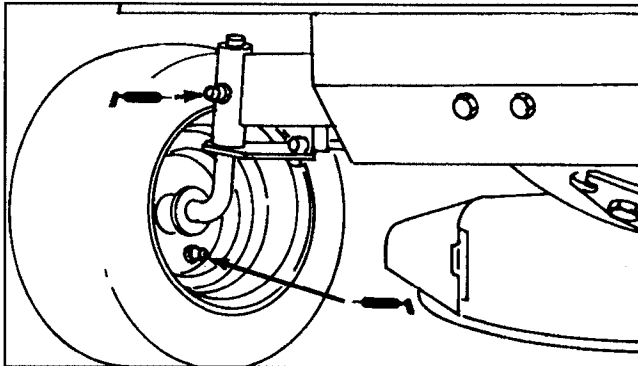

Figure 13
1. Wipe (4) grease fittings on spindles and wheels (Fig. 13) with a clean rag. If there is paint on front of fittings, scrape it off.
2. Lubricate both axle spindles with No. 2 general purpose grease (Fig. 13). Continue to pump grease until it oozes out the spindle. Wipe up any excess grease.
3. Lubricate both front wheels w/No. 2 general purpose grease (Fig. 13). Pump grease gun until grease oozes. Wipe up any excess grease.